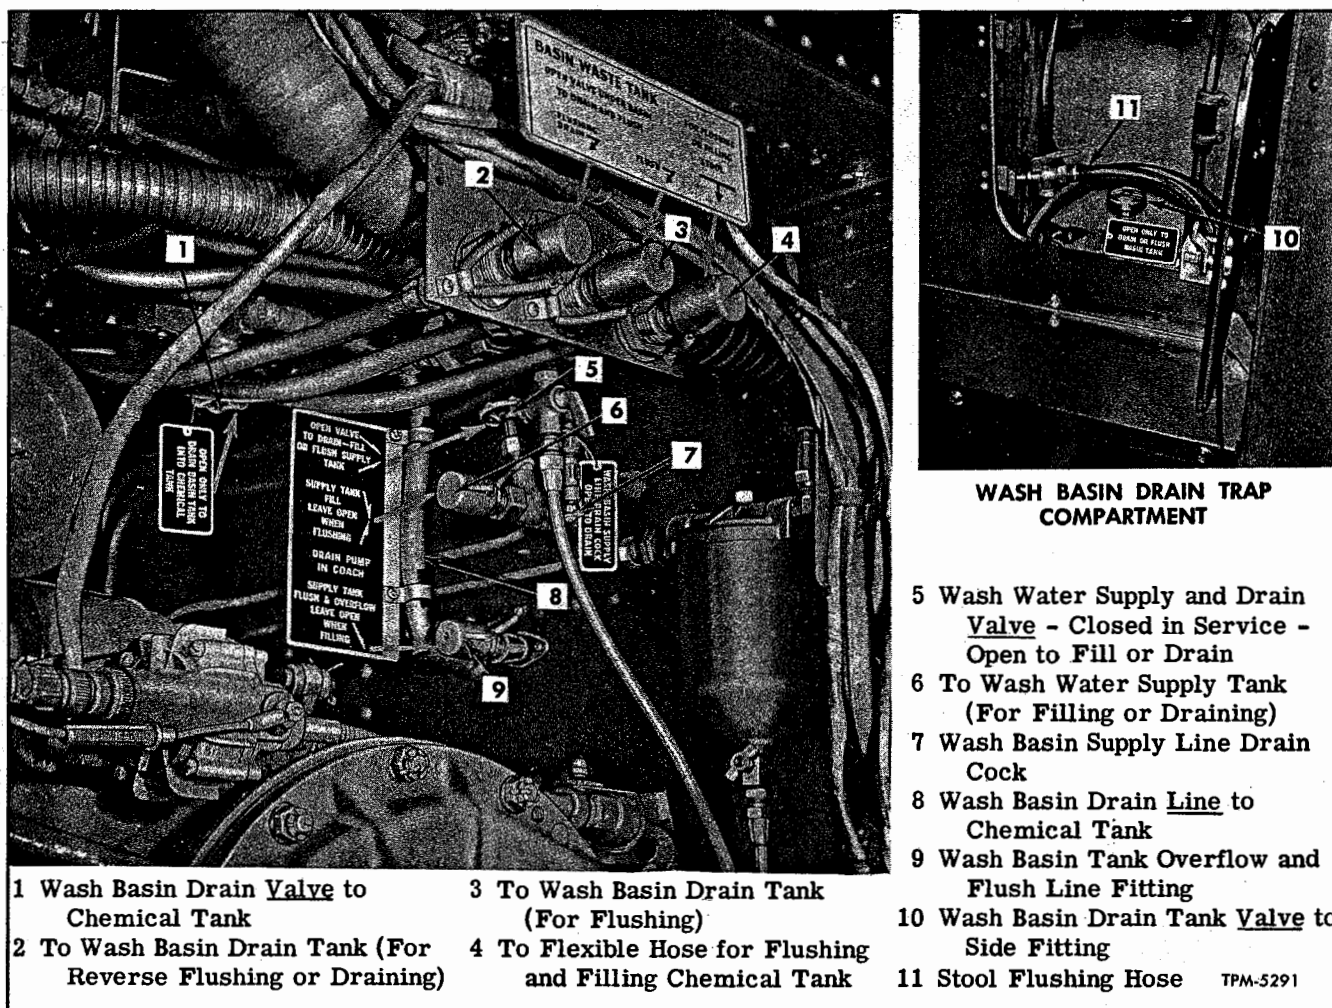
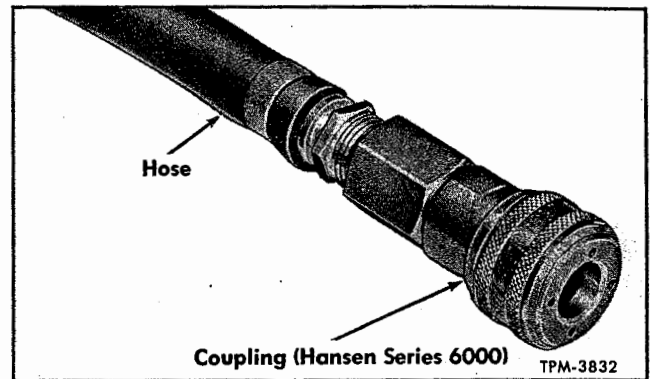

Figure 32—Lavatory Service Valves and Fittings
Figure 33—Hose and Coupling (Hansen Series 6000)
All lavatory filling, draining, and flushing service lines are accessible after opening right rear side closure door (fig. 32). Ends of lines are equipped with quick release coupling fittings to which a flexible service hose with a mating coupling (fig. 33) can be attached for servicing tanks.
Three valves are used when servicing lavatory; the wash water supply and drain valve (5, fig. 32), the wash basin drain valve to chemical tank (1, fig. 32) and the wash basin drain tank valve (10, fig. 32) to side drain and reverse flushing fitting
1. In engine compartment, remove cover from water supply and drain fitting (6, fig. 32). Connect water supply hose to fitting, then open supply tank supply and draining shut-off valve (5, fig. 32).
2. Remove cover from supply tank overflow and flush line fitting (9, fig. 32), then fill supply tank with fresh water until water flows out overflow fitting.
3. After filling tank, close valve (5, fig. 32), remove supply hose, then replace protector covers on fittings (6, and 9, fig. 32).
1. In engine compartment, remove protector cover from fitting (6, fig. 32), then connect drain hose to fitting.
2. Open supply tank drain and filling valve (5, fig. 32) which will allow water to drain into sewer opening or receptical.
1. In engine compartment, remove protector covers from fittings (6 and 9, fig. 32).
2. Connect drain hose to fitting (6, fig. 32) and connect water supply hose for flushing to fitting (9, fig. 32).
3. Open supply tank drain and filling valve (5, fig. 32) which will allow water to drain out hose into sewer opening or receptical.
5. After flushing tank, disconnect service hoses. Leave filling and drain valve (5, fig. 32) open until tank is filled.
1. In engine compartment, remove protector cover from fitting (4, fig. 32), then connect water supply service hose to fitting. Open water pressure into fitting.
2. Within lavatory, in small compartment under wash basin is located a flexible hose (11, fig. 32) with a valve-type nozzle. With this hose, direct water spray into toilet stool and chemical tank until flushing is completed.
2. Using hose (11, fig. 32) located in compartment under wash basin, fill chemical tank through lavatory stool with approximately seven gallons of water. Tank holds approximately 14 gallons; however, it should be only partially filled as recommended.
1. In engine compartment, open drain valve (1, fig. 32). Drain water will flow through drain line (8, fig. 32) into chemical tank.
1. In engine compartment, remove protector cover from fitting (2, fig. 32). Attach drain service hose to fitting.
2. In lavatory compartment, open access door under wash basin and open valve (10, fig. 32). Water will flow through service hose to sewer opening or receptical.
1. In small compartment under wash basin, open valve (10, fig. 32).
2. In engine compartment, remove protector covers from flushing fitting (3, fig. 32) and from flushing drain fitting (2, fig. 32). Connect water supply service hose to fitting (3, fig. 32) and connect drain service hose to fitting (2, fig. 32).
4. Flushing water will flow out through drain fitting (2, fig. 32) and out through drain service hose into sewer or receptical.
1. In engine compartment, open drain valve (1, fig. 32) and connect water supply service hose to flushing fitting (3, fig. 32).
3. Flushing water will flow out through line (8, fig. 32) and into chemical tank.
4. Close drain valve (1, fig. 32) after flushing.